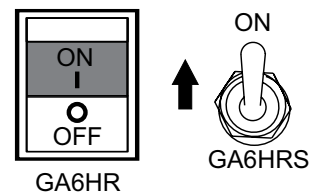

Figure 20. Operation Switch (ON)
4. Place the generator's operation switch (Figure 20) in the **ON** position.